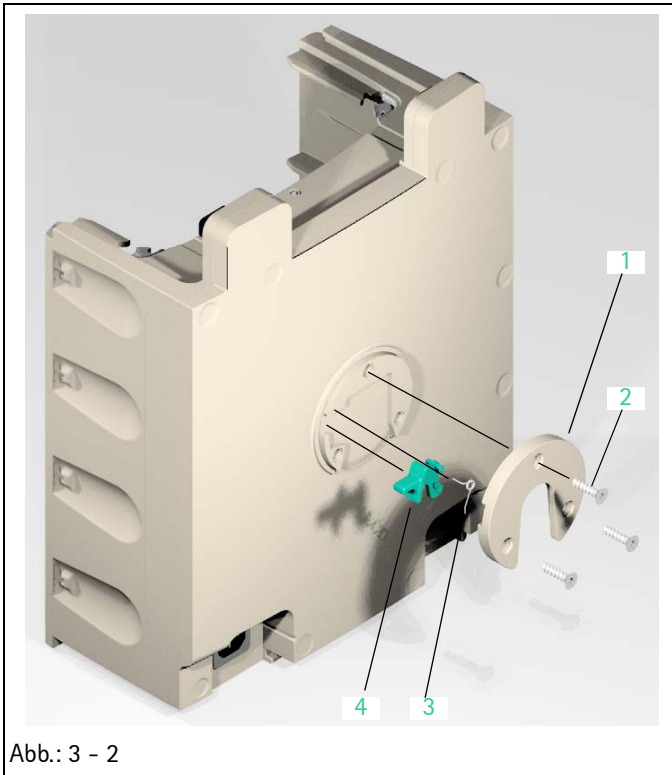

Abb.: 3 - 2
1. Loosen three screws (Abb.: 3 - 2 / Item 2) and remove the screws together with the pole clamp guide (Abb.: 3 - 2 / Item 1).
2. Remove pole clamp lever (Abb.: 3 - 2 / Item 4) and pole clamp spring (Abb.: 3 - 2 / Item 3).
Legende zu Abb. 3 - 2: